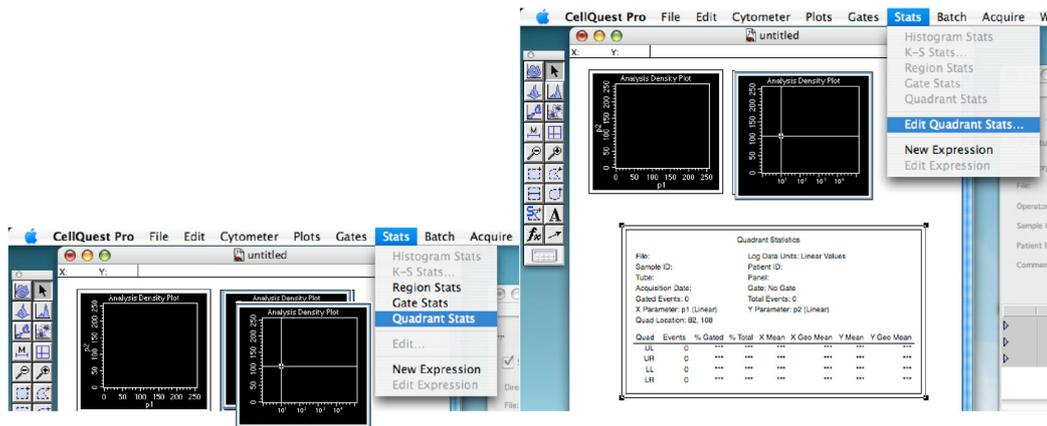

Figure 7. Display and edit quadrant stats
12. Click on the 'Stats' tab and 'Quadrant Stats' (Figure 7). You can edit the quadrant stats if you go back in the 'Stats' tab (Figure 7).